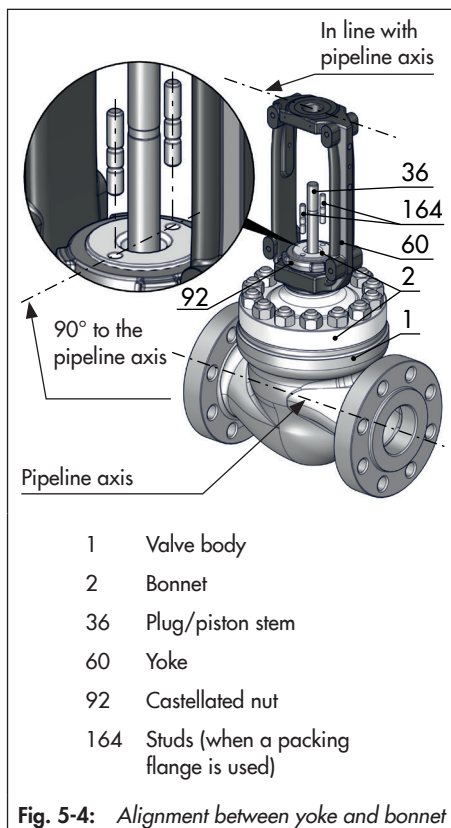

Fig. 5-4: Alignment between yoke and bonnet
2. Fasten the travel indicator scale (84) with hanger (83) and warning label (255), if applicable, to the yoke (3) using the screws (82). While fastening it, position the travel indicator scale (84) on the hanger (83) according to Table 5-4.
3. Screw tight the holder (302) using the screws (306) and washers (308). Observe the tightening torques specified in Table 5-3.
4. Place the yoke (3) on the bonnet in such a way that the two holes on the top of the bonnet are aligned with the open sides of the yoke (see Fig. 5-4).
5. Fasten the yoke (3) using the castellated nut (92).
- i. Place the packing flange (162) over the studs (164) of the valve bonnet (2/21) on the packing follower (8).
- ii. Thread the two packing nuts (163) (including disk springs when packing flange is loaded by external spring elements) onto the studs (164) and hand-tighten them. Guide the packing nuts (163) through the holes in the packing flange of the spring-loaded packing.